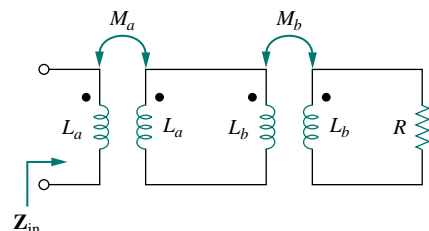

Figure 13.93 For Prob. 13.24.
- *13.24** Two linear transformers are cascaded as shown in Fig. 13.93. Show that